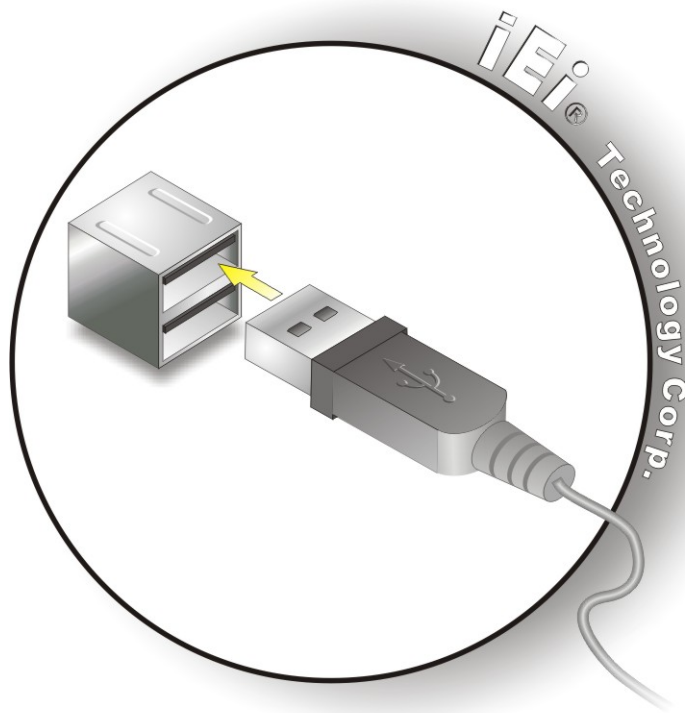

Figure 5-17: USB Connector
Step 4: Insert a USB Series "A" plug. Insert the USB Series "A" plug of a device into the USB Series "A" receptacle on the external peripheral interface. See **Figure 5-17**.